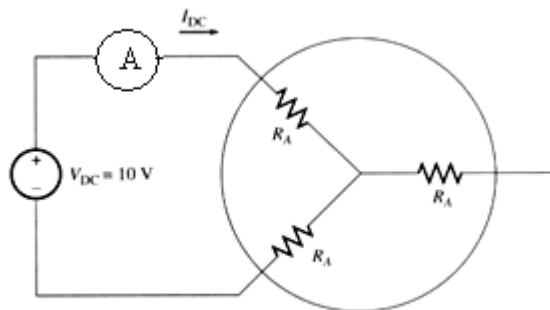

Figure 10.2. DC test
The circuit diagram for DC Test when the stator is connected in Y-connected is shown in Figure 10.2
1. Connect the armature in star connection as shown in Figure 10.2.